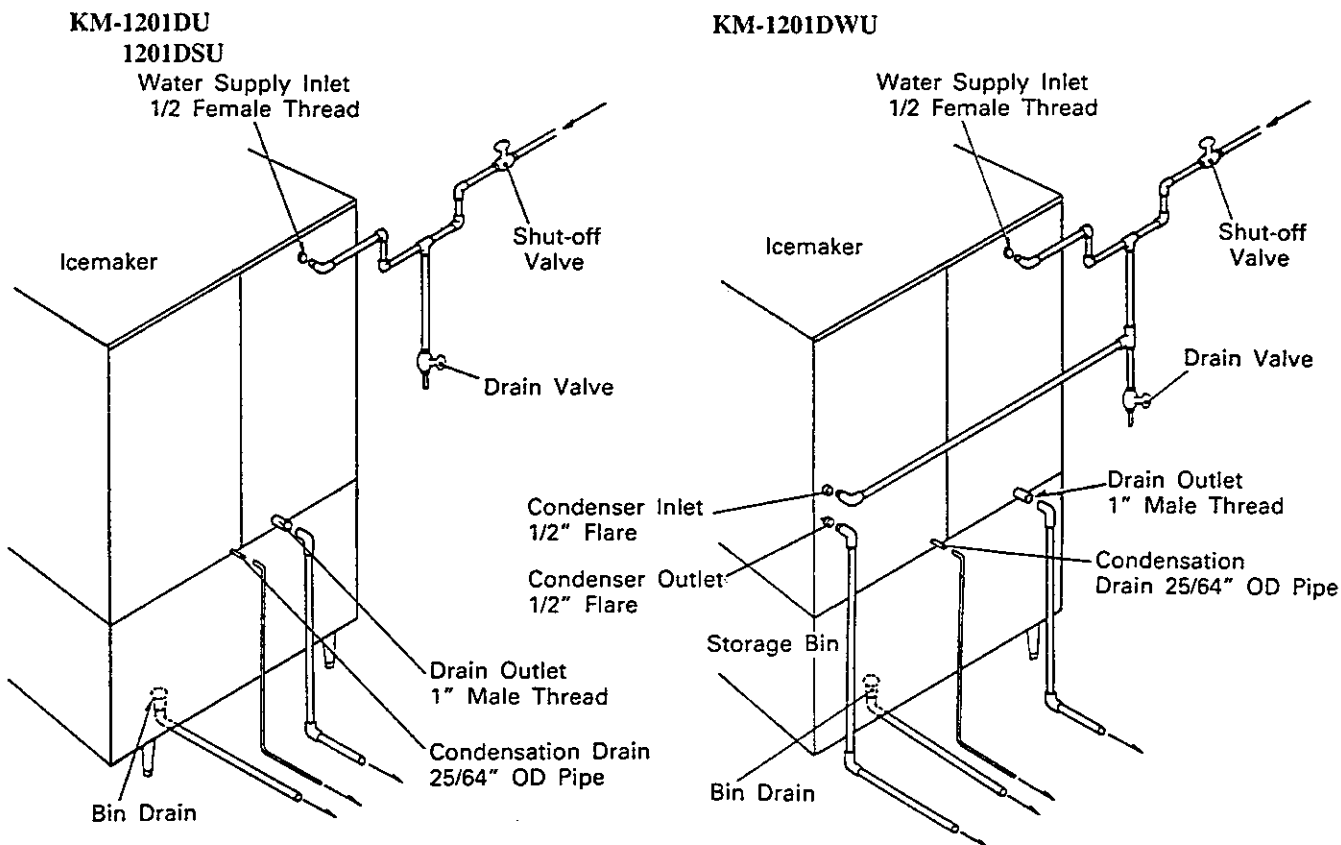

Fig. 22 Water Supply and Drain Connections
7. WATER SUPPLY AND DRAIN CONNECTIONS – See Fig. 22